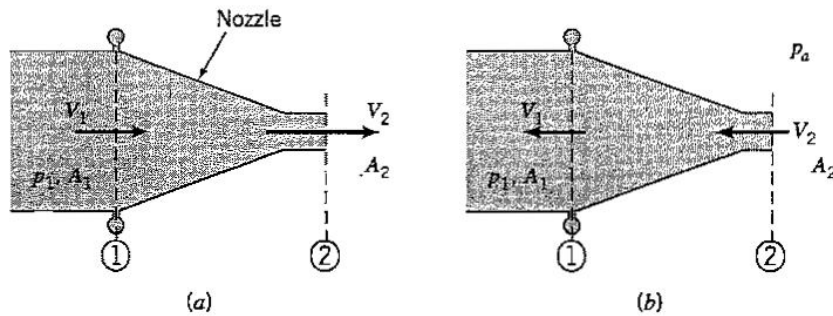

Figure P4.24
4.24 An incompressible fluid of density ρ flows smoothly and steadily from left to right through the nozzle shown in Figure P4.24(a). The pressure outside the nozzle is equal to atmospheric pressure, and the flow may be assumed to be one-dimensional. Determine the magnitude and the direction of the force exerted by the fluid on the nozzle in terms of the density ρ , the inlet velocity V_1 , and the inlet area A_1 , given that the pressures and velocities at stations 1 and 2 are uniform across the areas A_1 and A_2 , and that $A_1/A_2 = 4$.